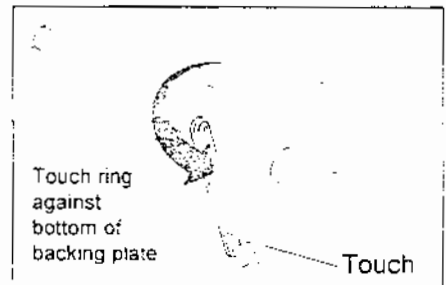

Figure 15
3. When the display changes to "FLP PEA" flip the distance gauge arm down and touch the locator ring to the bottom of the backing collar. See *Figure 15*. The machine will respond after a couple of seconds then prompt you to return the distance gauge to its normal return position while reading "PEA RTN".